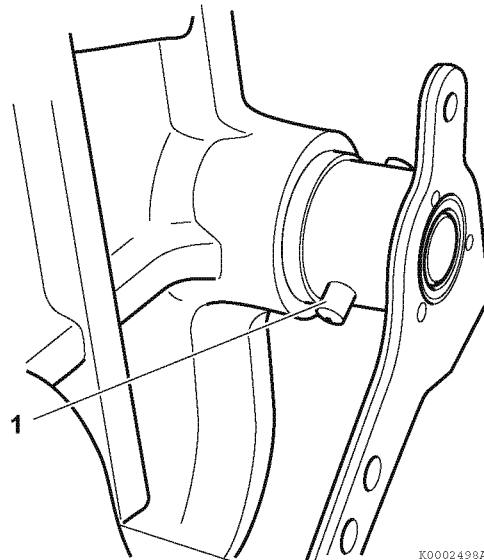

Figure 6-80
3. Remove the pin (1, **Figure 6-80**) fastening the speed control lever to the throttle shaft. The pin is tapered and must be driven out in the correct direction. Use a pin punch to drive the tapered pin out. Use square solid blows because the pin is held very tightly in the hole.